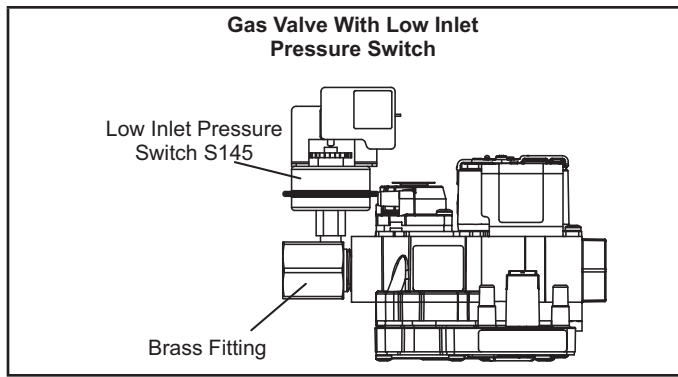

FIGURE 3
- 8 - Thread provided fitting to gas valve inlet until hand tight. Using properly sized wrench, tighten fitting 2 to 3 full turns being careful to position the side port to allow clearance for the pressure switch and harness. See FIGURE 3 or 4.
**NOTE** - Some installations may require the pressure switch and fitting assembly to be positioned differently than shown in FIGURE 3 and 4.